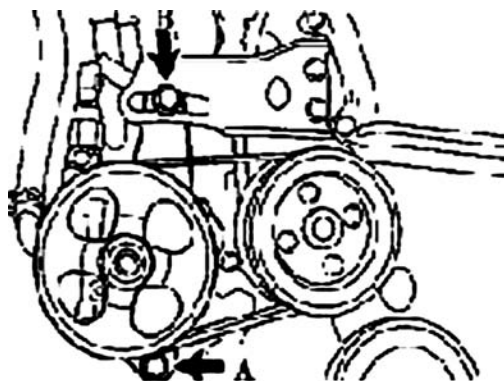

Figure 7
9. Install Generator V-belt See (Figure 7)